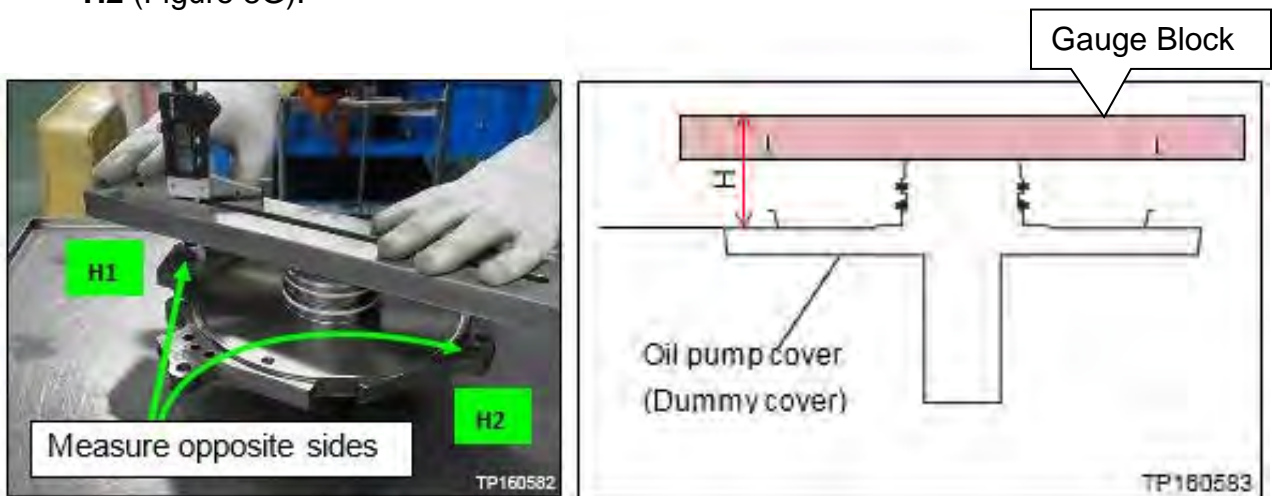

Figure 8G
5. Measure the average (**H**) dummy cover height (Figure 8G) as follows:
- b. Place the dummy cover upside down on a work bench, and place the Gauge Block onto the thrust bearing surface (Figure 8G).
- c. Position the Depth Gauge on the Gauge Block over an outer end of the dummy cover (Figure 8G).
- e. Measure this same distance on the opposite side of the dummy cover and it write as **H2** (Figure 8G).